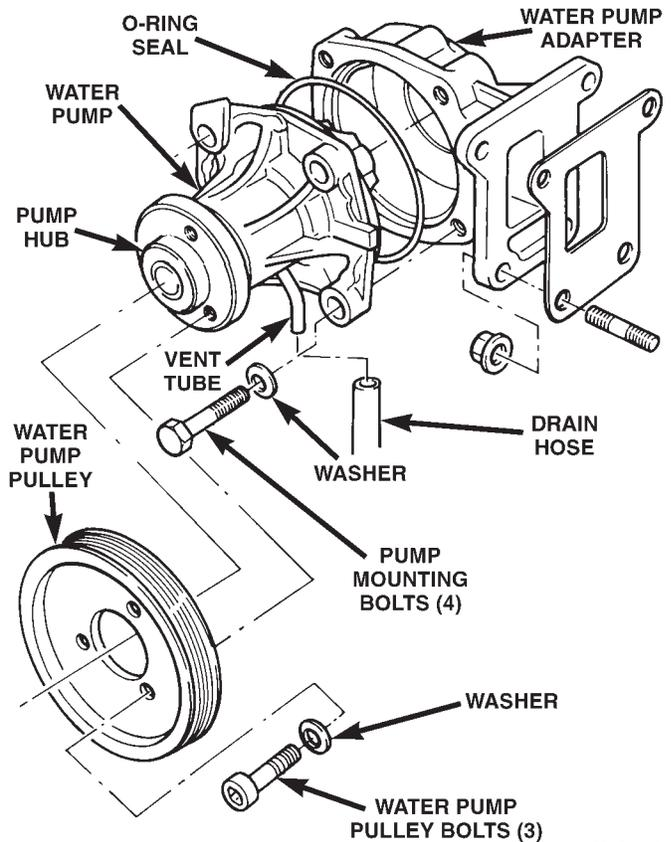
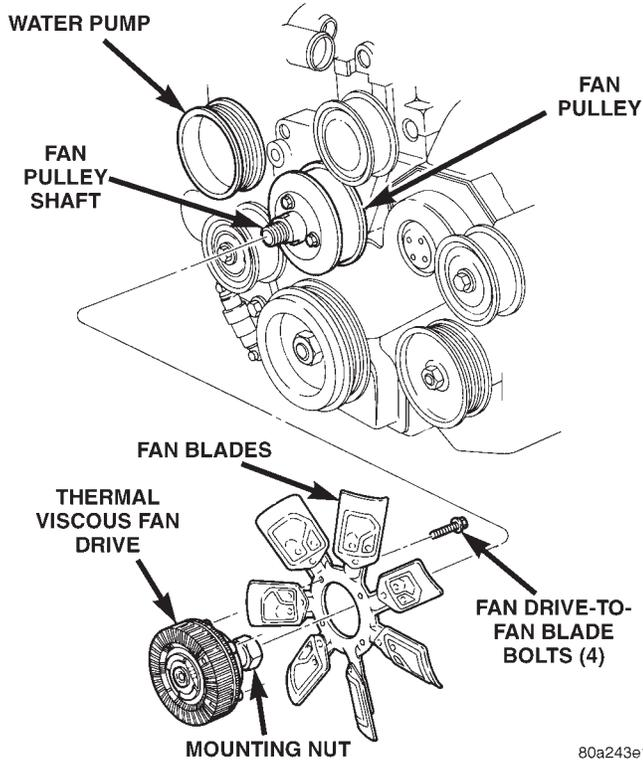

Fig. 21 WATER PUMP REMOVAL/INSTALL— TYPICAL
Fig. 22 Thermal Viscous Fan Drive and Blade Assembly
The water pump is serviced by replacing the pump and its impeller only. The water pump adapter (Fig. 21) does not have to be removed. The pump impeller is pressed on the rear of the pump shaft and bearing assembly. The pump is serviced only as a complete assembly with the impeller, housing, hub and bearing.
- (1) Disconnect negative battery cable at battery.
- (2) Drain the cooling system. Refer to Draining Cooling System in this group.
- (3) The thermal viscous fan drive and the fan blade assembly are attached (threaded) to the fan pulley shaft (Fig. 22). Remove the fan/fan drive assembly from the fan pulley by turning the mounting nut counterclockwise (as viewed from front). Threads on the fan drive are **RIGHT HAND**. Snap-On® 36 MM Fan Wrenches (number SP346) can be used to turn the mounting nut and to hold the fan pulley from rotating.
- (4) If the water pump is being replaced, do not unbolt the fan blade assembly (Fig. 22) from the thermal viscous fan drive.
- (5) Remove the upper fan shroud-to-upper cross-member mounting bolts. One of the bolts is mounted vertically at the bottom of the fan shroud.
- (6) Slip the fan shroud rearward. Remove the fan shroud and viscous drive/fan blade together as one assembly from the engine compartment.
- (7) Loosen **but do not remove** the 3 water pump pulley bolts (Fig. 21).
(10) Remove the 3 water pump pulley bolts (Fig. 21).
(11) Remove the water pump pulley from the water pump.
(12) Disconnect the drain hose from the vent tube at the bottom of water pump (Fig. 21).
(13) Remove the 4 water pump mounting bolts (Fig. 21).
(14) Remove water pump from engine.
(1) Clean the o-ring mating surfaces. If the original pump is to be reinstalled, remove any deposits or other foreign material. Inspect the water pump, water pump adapter and water pump mating surfaces for erosion or damage from cavitation.
(2) Position a new rubber o-ring seal (Fig. 21) between the pump and pump adapter. Hold the seal with petroleum jelly.
(3) Position the pump to the engine.